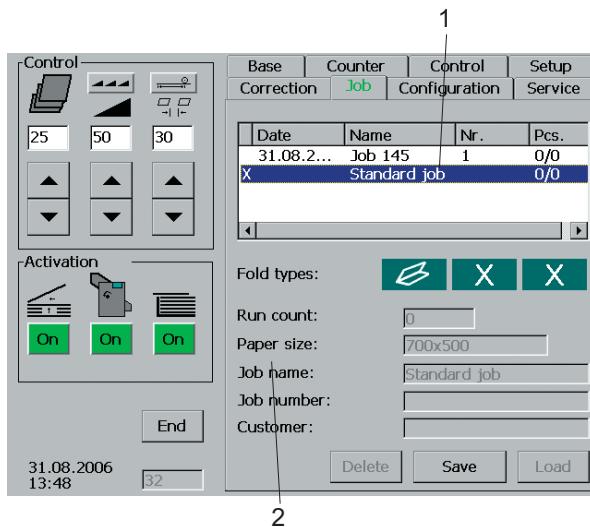

Fig. 27 Saved job
All the jobs that have been saved become visible in a window (Fig. 27/1).
The basic information for this job, such as type of fold, volume, sheet size, name, etc., are shown below the window (Fig. 27/2).
2. Select the job by touching the respective line (Fig. 27/1).